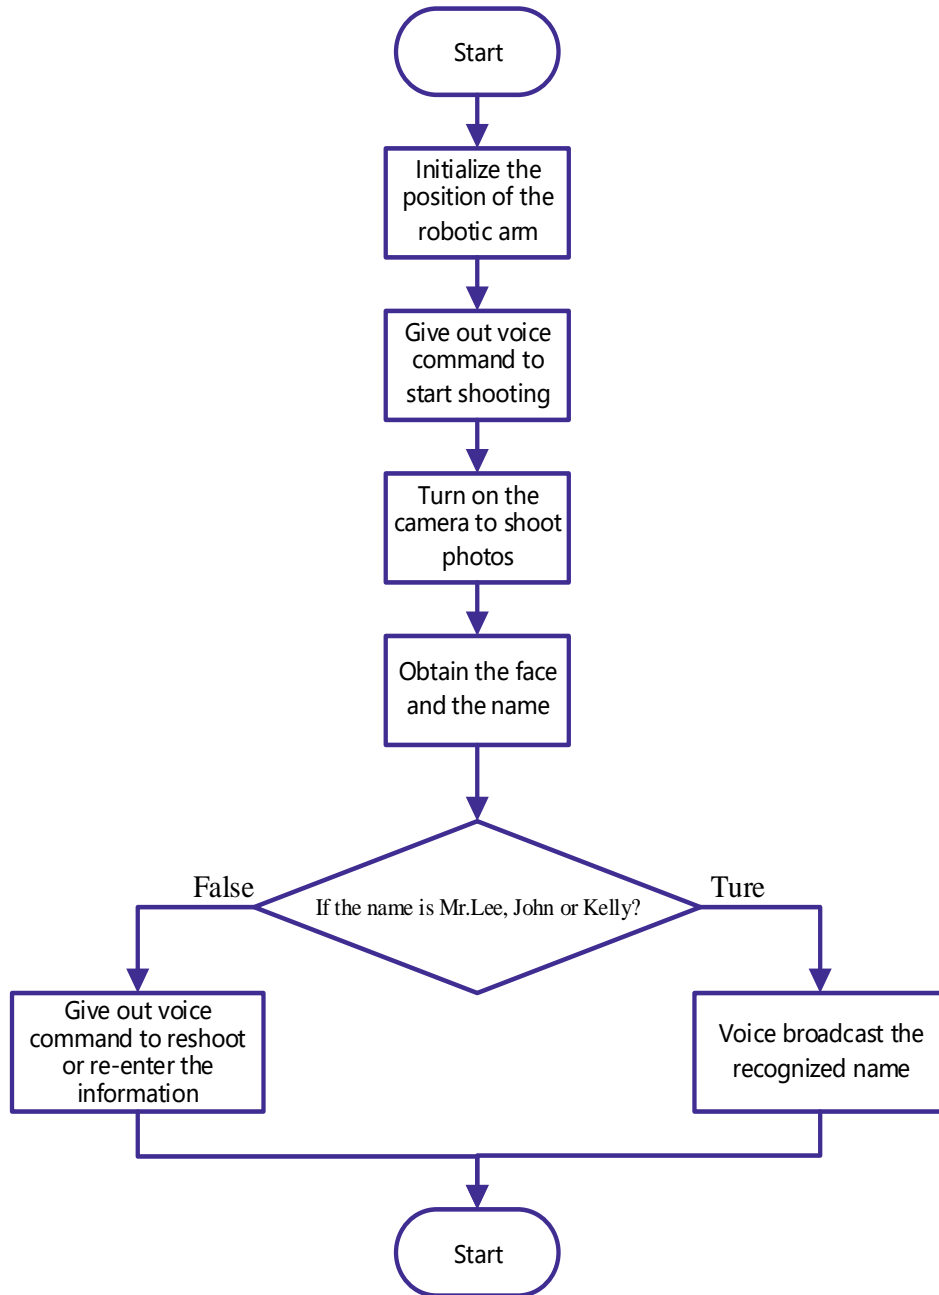

Figure 5.1 Flowchart of identity authentication procedure
(1) Prepare Hardware
Step 3: Turn on the personal computer (PC).
(2) Design Program
Step 1: Design the program flowchart, as shown in Figure 5.1.